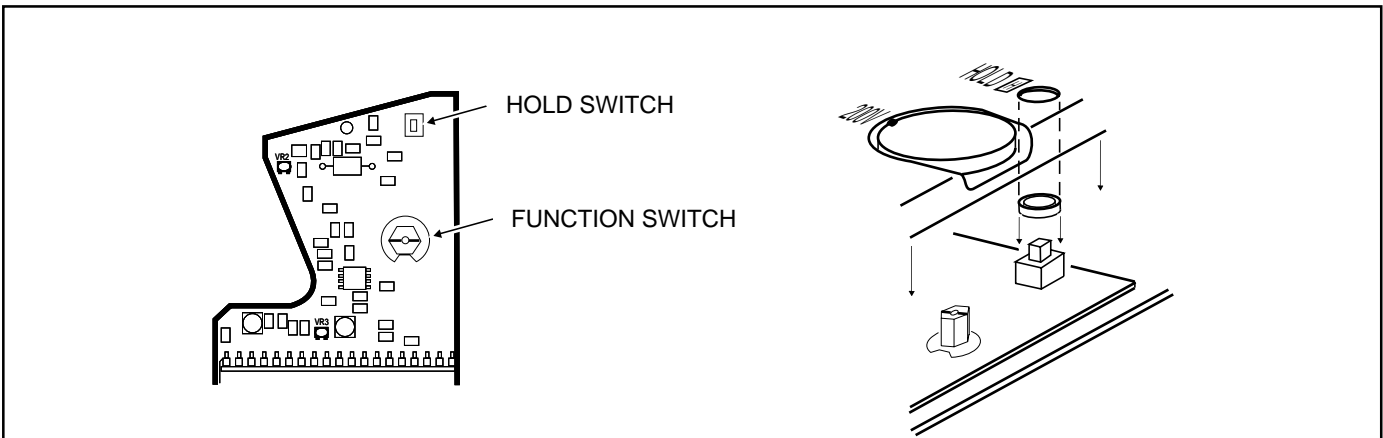

Figure 4. Rotary Switch Position
2. Set the mark on the function switch axis to the 200V AC position (horizontal position), see Figure 4.